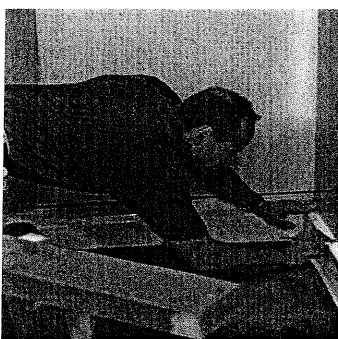

Figure 4
*If the gap is 1/8-inch or wider* at any point, you’ll need to scribe the panel to the shower base with your compass. See figure 4.